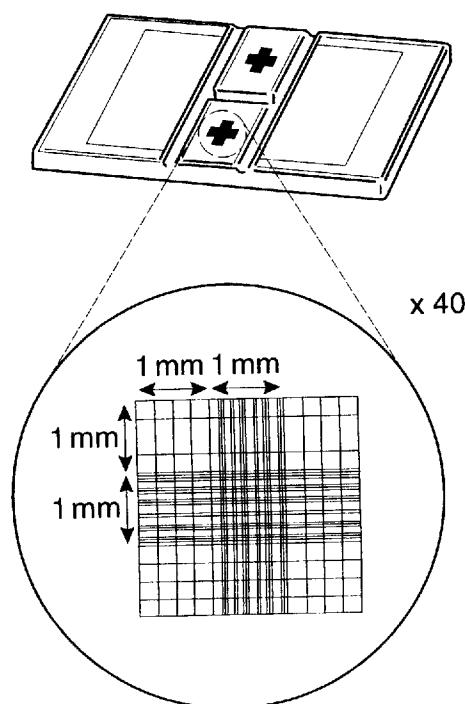

Fig. 2.1
- (b) Fig. 2.1 shows a haemocytometer slide.